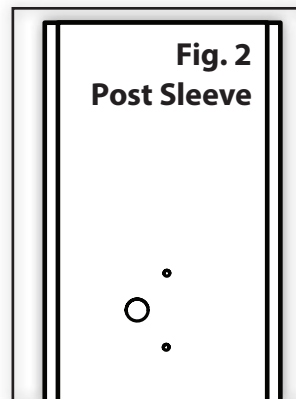

Fig. 2
- d. Pre-drill a 5/16" hole for the wire and pre-drill two 5/64" holes for mounting screws (**Fig. 2**)